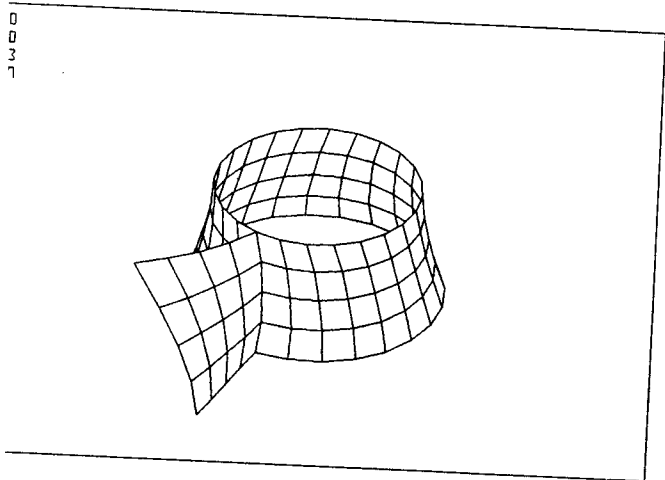

Figure 6
Step 11: Create elements for first blade (Figure 6)